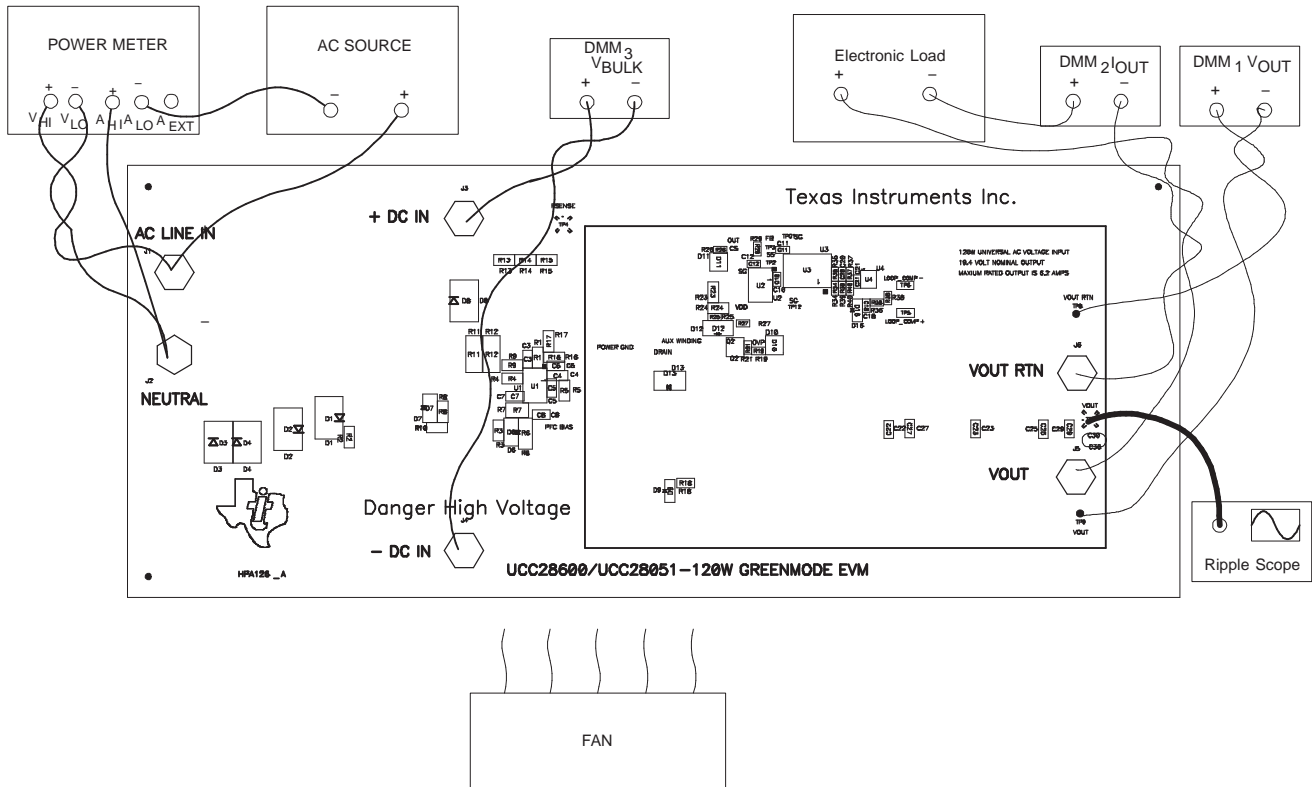
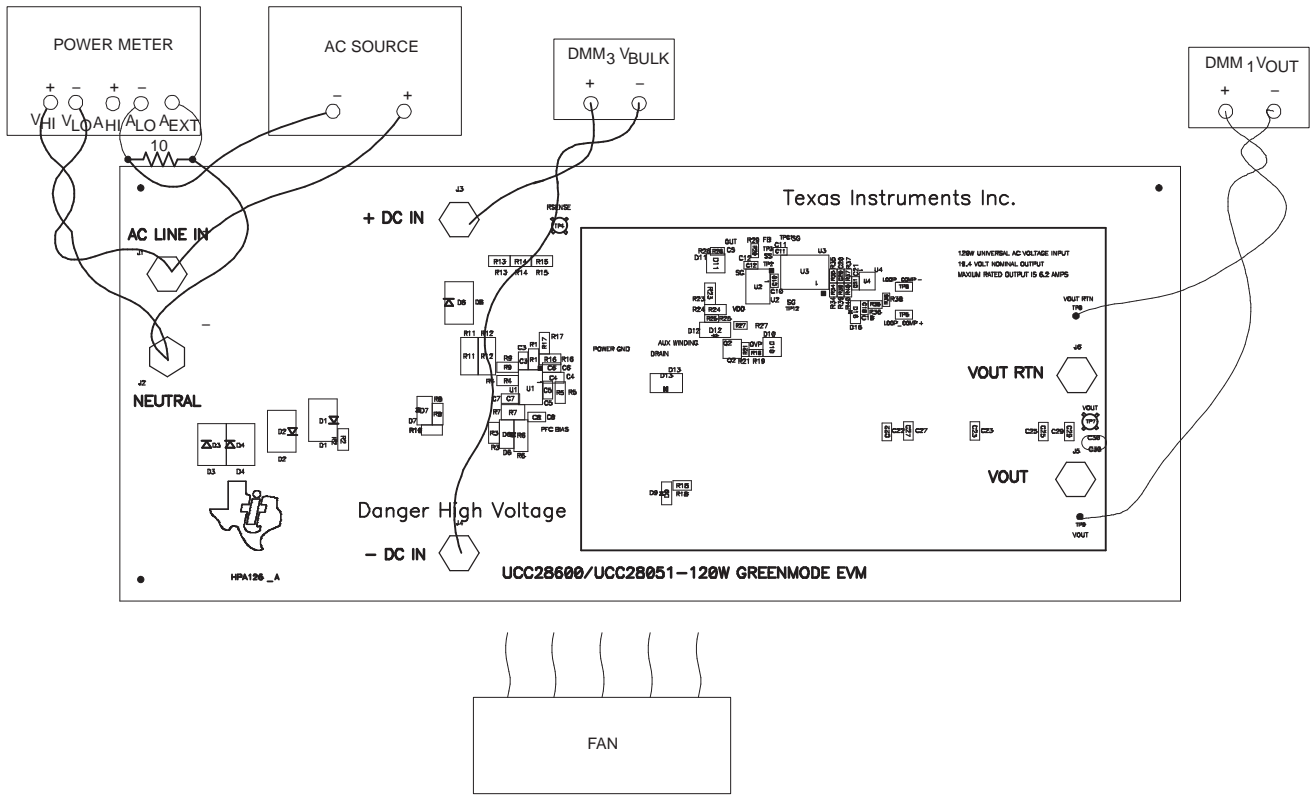

Figure 3. Recommended HPA126 EVM Test Configuration for Operation with a Load.
Figure 4. Equipment Set Up for HPA126 Evaluation During No-Load.
Figure 3 shows the basic test set up recommended to evaluate the UCC28600EVM with a load. Figure 4 shows the equipment set up when measuring the input power consumption when the EVM is in standby mode. Note the addition of the 10-Ω shunt in Figure 4. The power analyzer should also be set for long averaging in order to include several cycles of operation and an appropriate current scale factor for using the external shunt must be used.
The power analyzer shall be capable of measuring low input current, typically less than 10 mA, and a long averaging mode if low power standby mode input power measurements are to be taken. An example of such an analyzer is the Voltech PM100 Single Phase Power Analyzer. To measure the intermittent bursts of current and power drawn from the line during no-load operation, an external 10- Ω shunt, with a current scale factor of 10 V/A, was used at a high sample rate over an extended period of time in order to display the averaged results (refer to Figure 4).
- a. Prior to connecting the ac input source, it is advisable to limit the source current to 5 A maximum. Make sure the ac source is initially set between 85 V_{RMS} and 265 V_{RMS} prior to turning on. Connect the ac source to the AC LINE IN and NEUTRAL terminals of the EVM as shown in Figure 3.
- b. Connect the voltage terminals of the power analyzer across AC LINE IN and NEUTRAL as shown in Figures 3 and 4.
- c. Connect the current meter terminals of the power analyzer in series with the NEUTRAL line as shown in Figure 3.
- a. If no-load input power measurements are to be made, set the power analyzer to long averaging and external shunt mode. Insert a shunt, such as a 10-Ω resistor as shown in Figure 4, in series with the NEUTRAL terminal of the EVM. Set the appropriate current scale on the power analyzer.
- d. Connect DMM₁ across VOUT and VOUT RTN as shown in Figures 3 and 4.
- e. For operation with a load, connect the positive terminal of the LOAD to the VOUT terminal of the EVM and the negative terminal of the LOAD to the VOUT RTN terminal of the EVM, as shown in Figure 3. Connect DMM₂ in series with the negative terminal as shown in Figure 3. Set the LOAD to constant current mode to sink 0 A.
- f. Connect DMM₃ across +DC IN and – DC IN as shown in Figures 3 and 4.